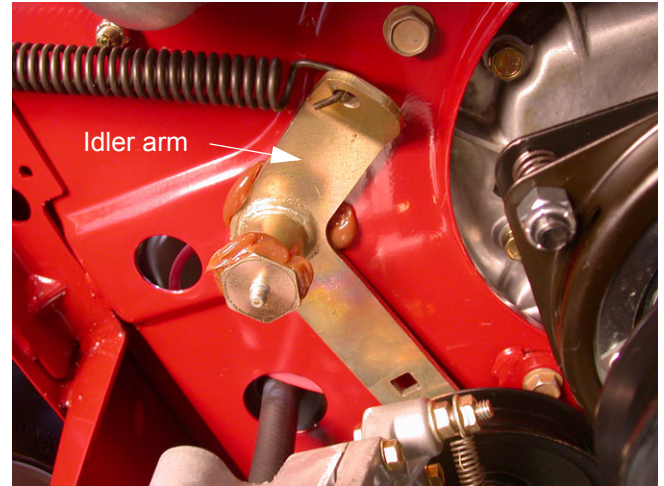

Figure 7.2
- 7.2. Pull the breaker bar to the right until it can be braced in position at the pivot point of the tensioner arm. See Figure 7.2.